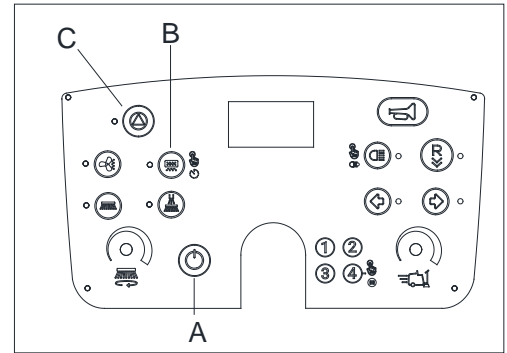

Figure 14
1. Press the start button (C, Figure 14) to disable all cleaning motor functions (dust fan, side broom/main broom), and the side broom and main broom will be lifted.
2. Press the filter shaker button (B, Figure 14) to activate the dust shaking function and clean the filter.
4. Press the power button (A, Figure 14) to turn off the power.